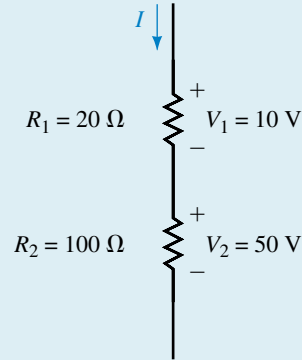

FIGURE 4-17
EXAMPLE 4-7 Compute the power to each resistor in Figure 4-17 using Equation 4-13.
- For Figure 4-17, $I = 0.5 \text{ A}$. Use Equations 4-10 and 4-12 to compute power to each resistor. Compare your answers to the answers of Example 4-7.